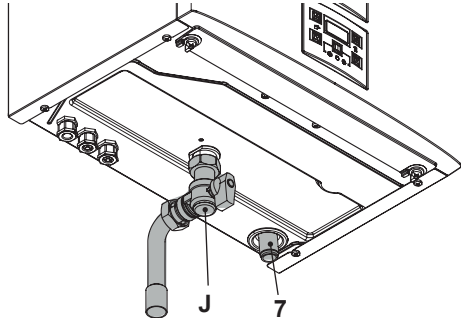

Fig. 6.4
- Fit the condensate drain 7 (Fig. 6.4) in the drainage pipework.